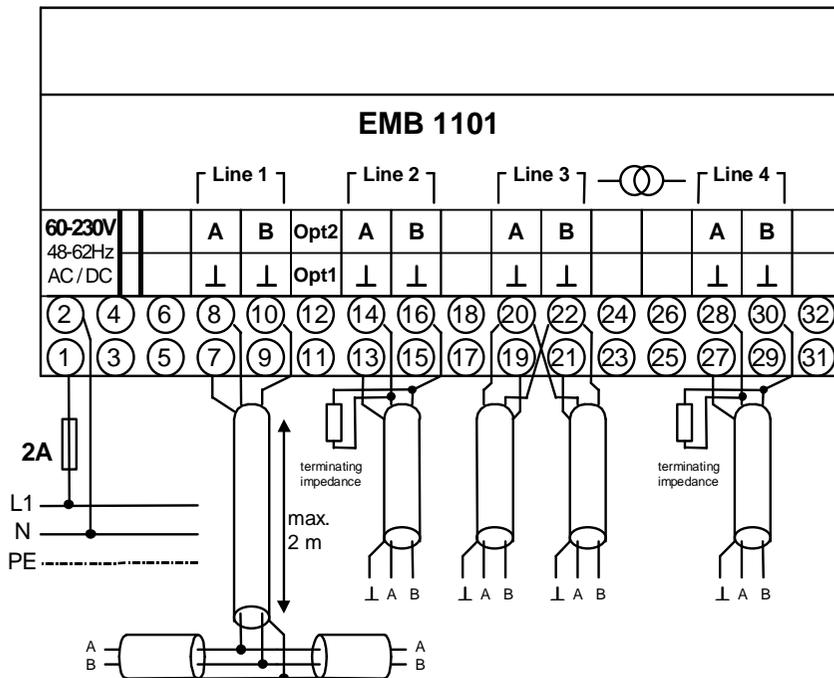

Figure 1: Wiring diagram
| Figure 1: Wiring diagram..... | 9 |
- Wire up according to the wiring diagram Figure 1, page 9.
The device must be connected in accordance with the wiring diagram in Figure 1.
The supply voltage must be in the range 60 V to 265 V. It can be either alternating or direct current. In the case of alternating current, the frequency must be in the range 48 Hz to 62 Hz. It must be connected to the “60 - 230V” terminals according to the wiring diagram in Figure 1.
If the repeater is within a bus link, the two cable ends must be clamped to one line (see Figure 1, page 9, *Line 3*), or connected by means of a spur line (see Figure 1 page 9, *Line 1*).
The bus lines are implemented as single strings, i.e. the bus cable runs from one device to the next, and so on to the last device. A terminating impedance is inserted between conductors **A** and **B** at the first and last devices. If the EMB 1101 is connected to one end of the string, a terminating impedance must also be attached to the device (see Figure 1, Page 9, *Line 2* and *Line 4*).